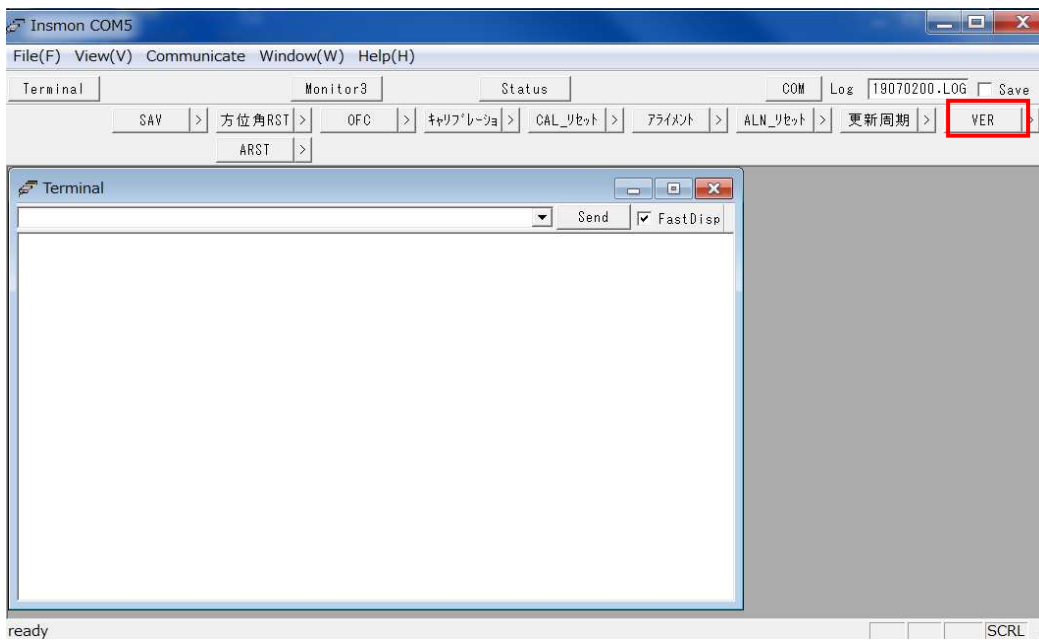

Figure 1. Startup screen
- 1) Please execute “Insmon.exe.” The screen in figure 1 is displayed.